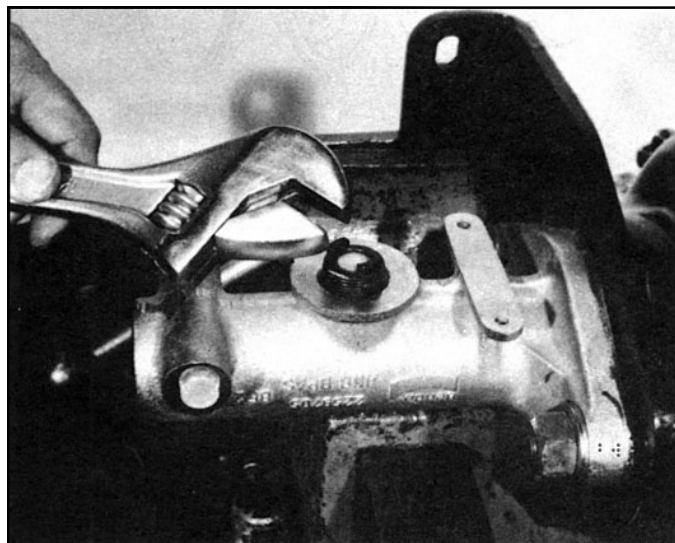

FIGURE 7
4. Remove the compensating valve assembly from the master cylinder by placing a crescent wrench across the flats and turning counterclockwise. If only changing the reservoir, do not remove the compensating valve assembly as it cannot be replaced unless the master cylinder is disassembled. The compensating valve must be replaced as an assembly (Figure 7).